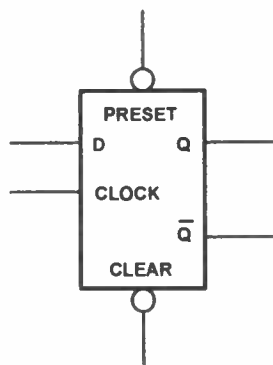

Fig. 8.4 Symbol for a D-type bistable.
The D-type bistable (Fig. 8.4) has two inputs: D (standing variously for data or delay) and CLOCK (CLK). The data input (logic 0 or logic 1) is clocked into the bistable such that the output state only changes when the clock changes state. Operation is thus said to be synchronous. Additional subsidiary inputs (which are invariably active low) are provided which can be used to directly set or reset the bistable. These are usually called PRESET (PR) and CLEAR (CLR). D-type bistables are used both as latches (a simple form of memory) and as binary dividers.